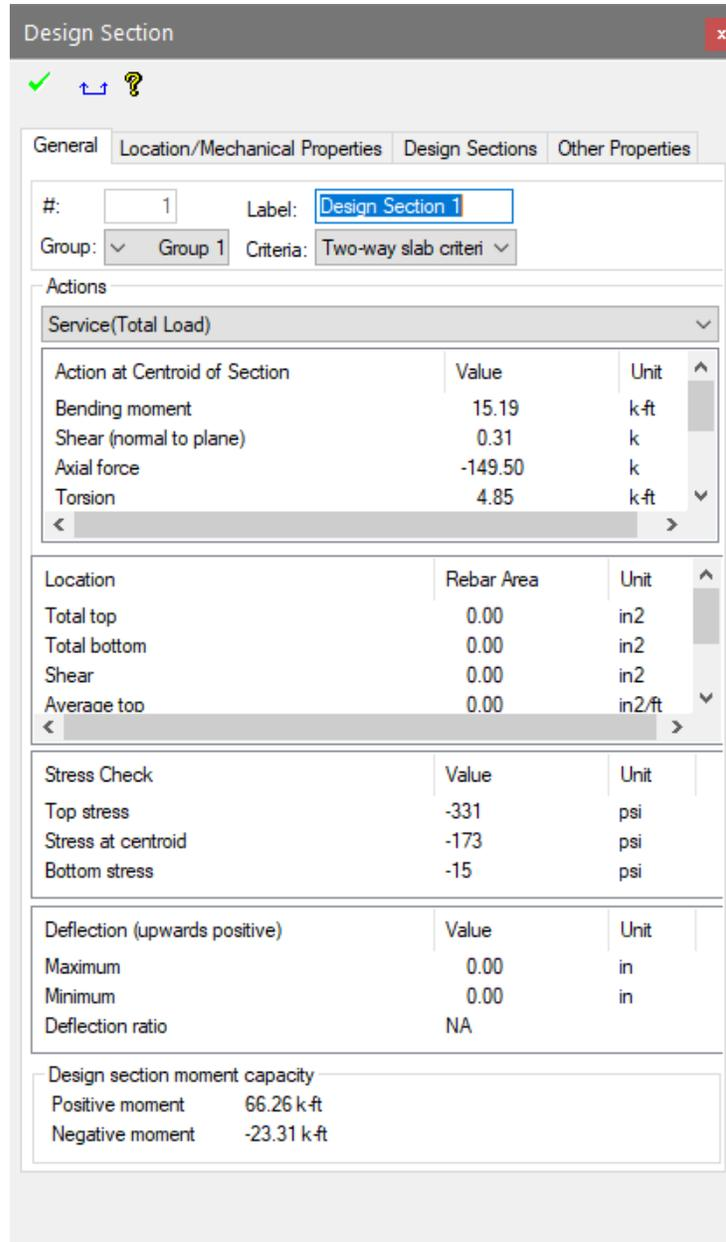

FIGURE 7.5-3 WINDOW OF DESIGN VALUES FOR MANUAL CUT
- Once the operation is complete, double-click on the cut to open up its property box (**Fig. 7.5-3**). This table lists the results of the forces acting on the cut, reduced to six actions (three forces and three moments) and expressed at the centroid of the cut, reinforcement required, and the deflection ratio (N/A to strength combinations for the load combination selected at the top of the *Actions* section. The sections moment capacity and demand are given in the window as well.